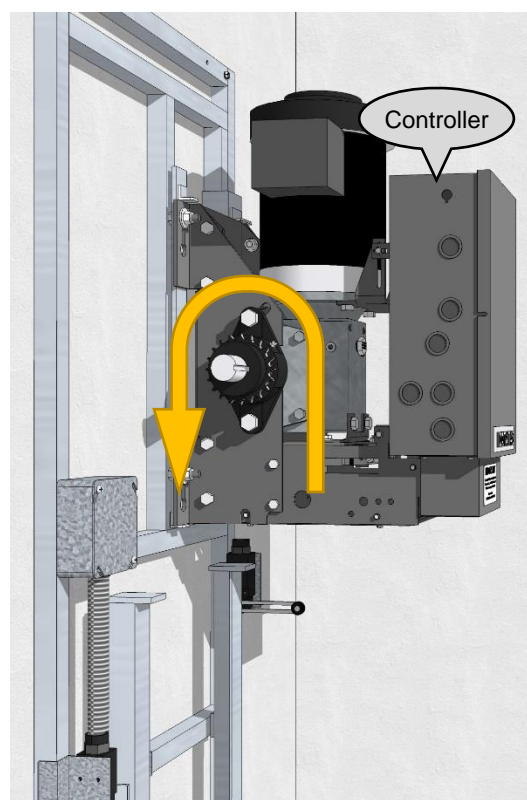

Figure 16
- 3** Watch the rotation of the sprocket when the up contactor is pressed. If the direction of rotation is not the same direction as shown in **Figure 16**, go on to **Step 4**. If the direction of rotation is the same as shown in **Figure 16**, go on to **Step 5**.